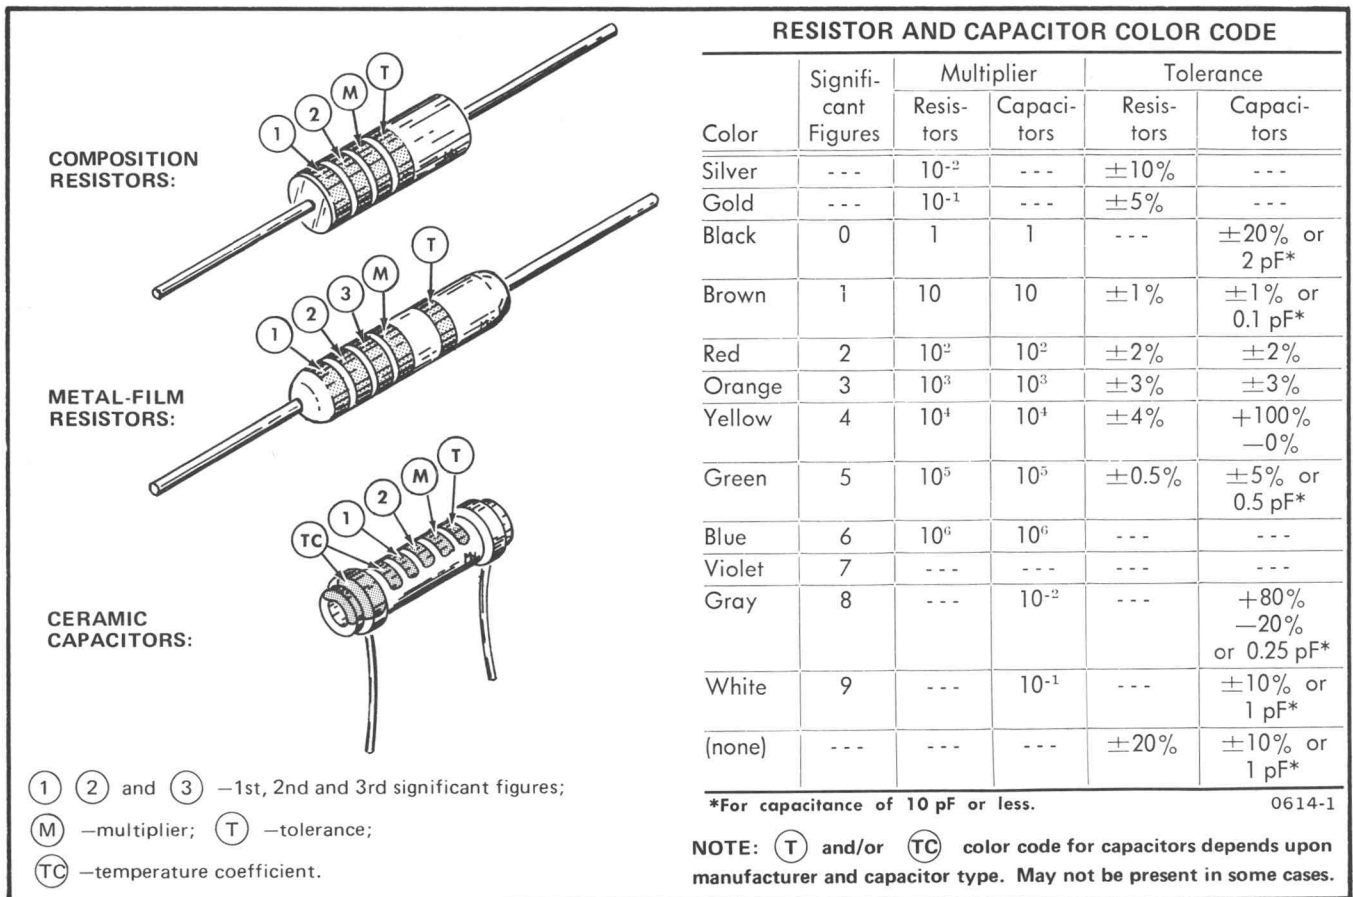

Fig. 6-1. Standard EIA color coding for resistors and capacitors.
**Resistor Color Code.** Resistors used in this instrument are standard parts. Most are composition, with some metal film types. They are color-coded with the standard EIA color code (see Fig. 6-1).
**Capacitor Marking.** The electrical value of common disc capacitors and electrolytics used in this instrument are marked in microfarads on the component body. The white ceramic capacitors are color-coded in picofarads using a modified EIA code (see Fig. 6-1). Tantalum slug capacitors are color-coded in picofarads, using a modified EIA code with the dot indicating both voltage rating and the positive side (see Fig. 6-2).